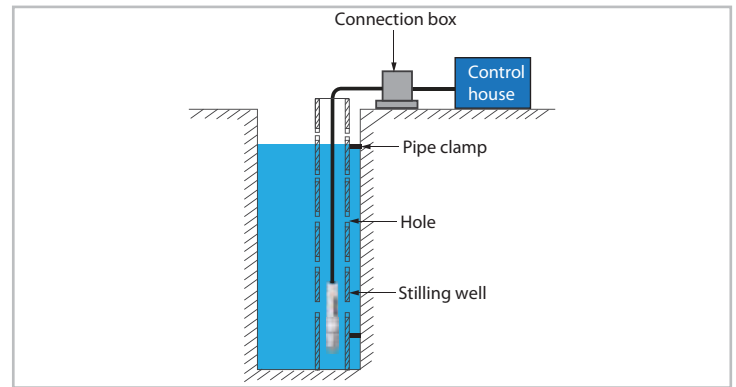

Fig. 3. Stilling well protection
- While pumping the liquid, the transmitter should be uninstalled from the tank or it should be protected by a stilling well as shown in Fig. 3.
Fig. 3 shows the installation method used in case of flowing liquid, for example, reservoir area or river channel. Use of a stilling well will dampen disruptions and provide a steady level for an accurate measurement.